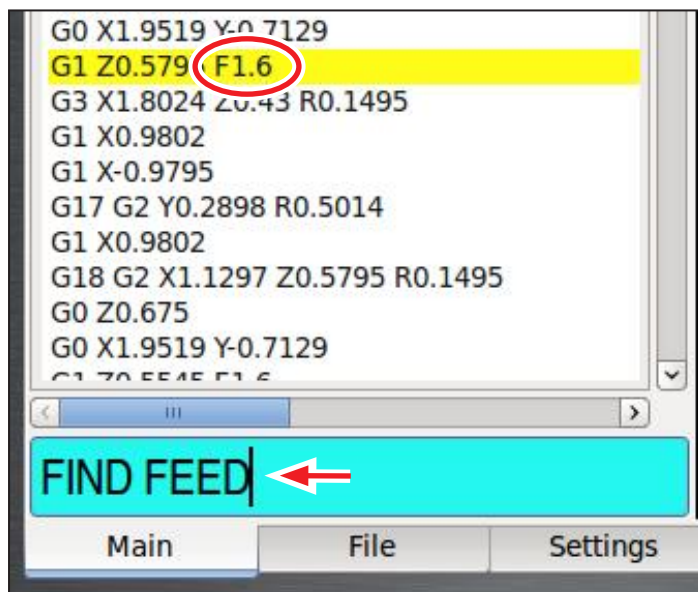

Figure 5.11
- *FIND FEED*: Searches for instances of the actual word *Feed* in the G-code and any *F* G-code command (see **Figure 5.11**)
On the left-hand side of the *Settings* tab screen is a window that displays a range of available G-code modalities (see **Figure 5.11**). Active G-codes are highlighted in yellow. The right-hand side of the *Settings* tab screen has checkboxes that allow configuration of PathPilot to suit the machine.